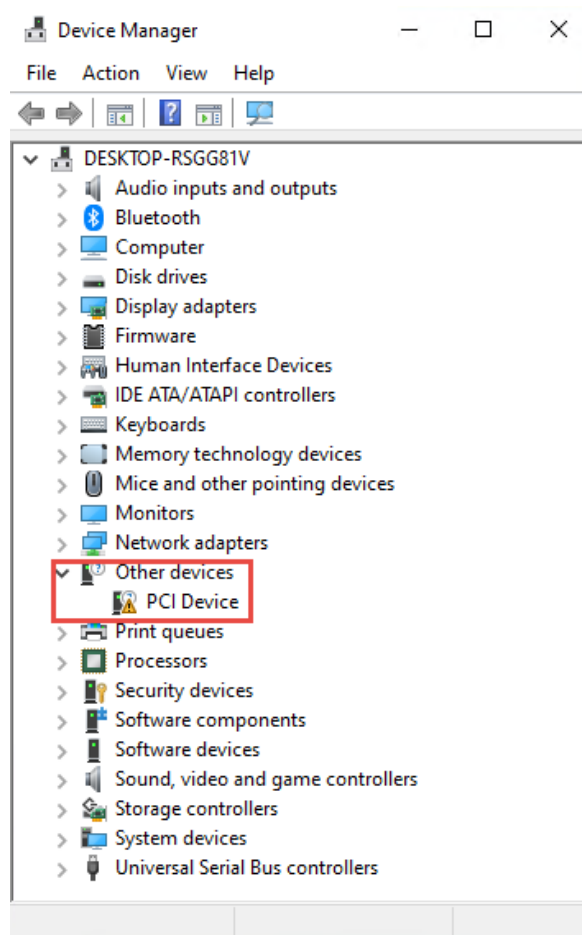

Figure 4-6 PCI Device in the Device Manager
7. Open the **Device Manager** in the Win10, you may see an unknown “**PCI Device**” (See **Figure 4-6**), that means the PCIe design is detected by the host via Thunderbolt 3 interface. If the PCI device does not appear in the Device Manager, please re-plug the Thunderbolt cable again then check again.